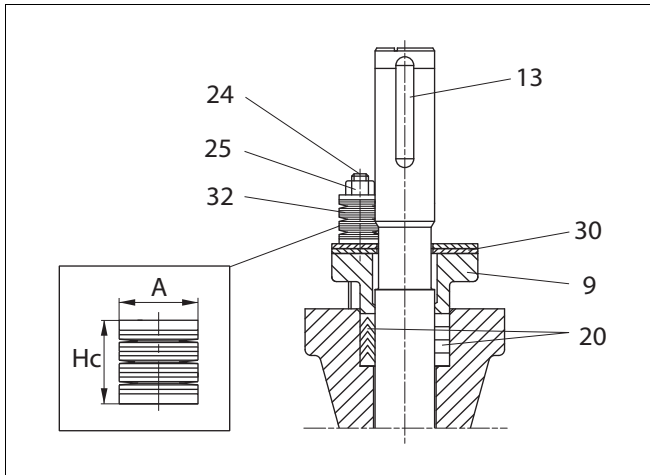

Fig. 18 Gland packing, RE/RE1
In gland packings, tightness is ensured by the contact between the gland follower and the packing rings. See Fig. 18.
- Remove the key (13).
- Remove the hexagon nuts (25), disc spring sets (32), one stud (24), retaining plates (30) and gland follower (9).
- Remove the packing rings (20) from around the shaft using a knife or some other pointed instrument without scratching the surfaces.
- Place the new packing rings (20) over the shaft (11). The gland follower may be used for pushing the rings into the counterbore. Do not damage packing rings in the shaft keyway. See Fig. 18.
- Deform the packing rings first by tightening the gland nuts (25) without disc springs to the torque Tt, see the value from Table 2.
- Remove the gland nuts and one stud. Mount the retaining plates (30) with the text UPSIDE on top and the removed stud and place the disc spring sets (32) on the gland studs. Tighten the nuts (25) so that the disc springs are compressed to the height Hc, see Table 2. Lock the nuts with locking compound e.g. Loctite 221. See Fig. 18.